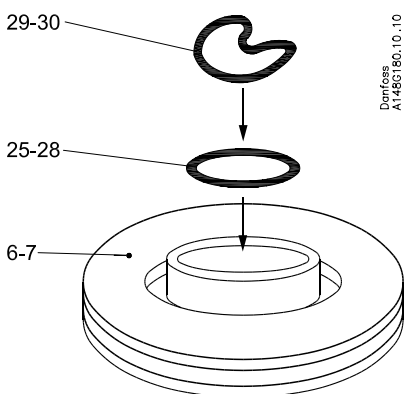

Fig. 7
**A.** Remove the cap (pos. 12) and the lock ring (pos. 38). Unscrew the spindle (pos. 13) clockwise till it is disengaged from the thread.
**B.** Unscrew the bolts (pos. 23). Pull the spindle (pos. 3) out of the valve top. Unscrew the bolt (pos. 4) clockwise. Remove the springs (pos. 15 and 16) and the spindle (pos. 13) and bushing (pos. 14). Pull out the piston (pos. 6) and guide (pos. 7).
**D.** Remove the sealing rings (pos. 27, 29 and 30). At renovation of the valve Danfoss recommends replacement of all sealing elements. The spare parts set for the GPLX valves includes all sealing elements.
**E.** Mount the O-ring (pos. 25, 28) and then the sealing ring (pos. 29, 30) as shown in fig 7. Important: Fold the sealing ring as shown. Be certain that there are no sharp folds and do not use tools to mount the sealing ring.